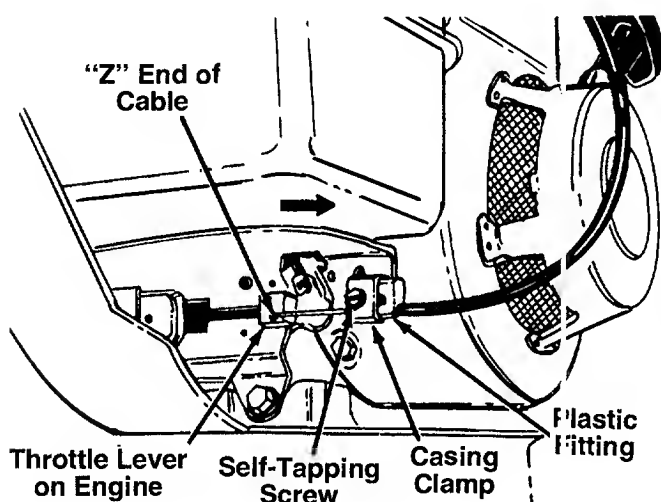

FIGURE 10.
23. Attach the throttle control cable to the throttle control lever on the engine as follows. See figure 10.
- Pull the throttle control cable so that the throttle lever on the engine is in the full open position (all the way toward the right side of the unit) as shown in figure 10. Tighten the self-tapping screw to secure the throttle control cable in this position.